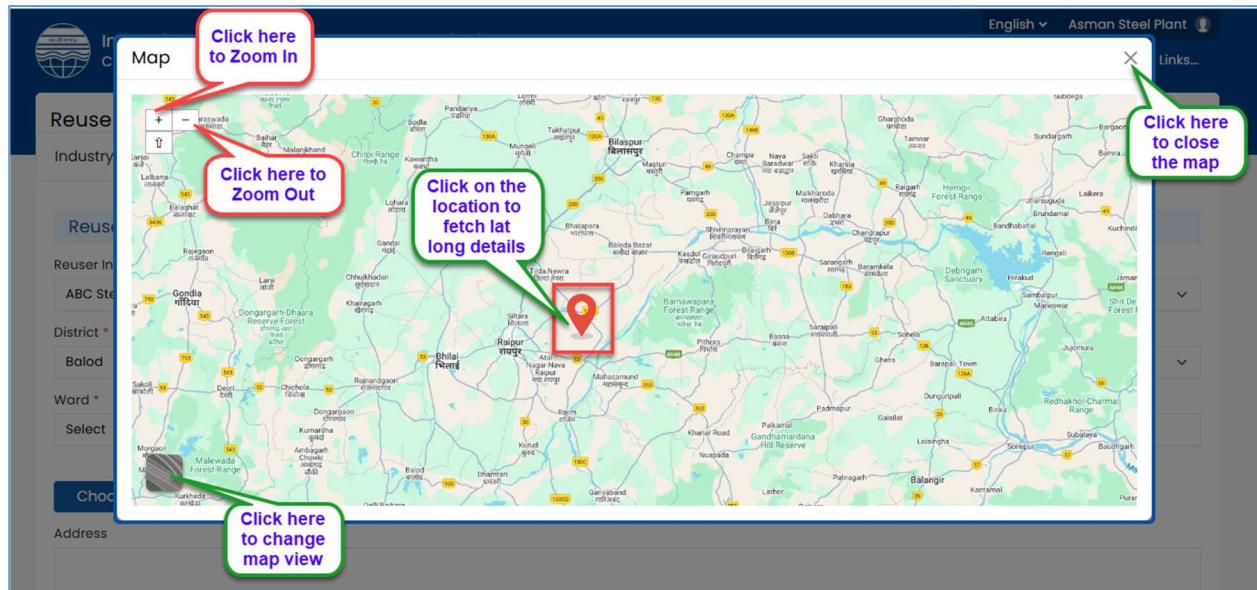

Figure 3-36 Map Screen
- To fetch the Lat-Long details, click on the location in the map as displayed in **Fig 3-36**.